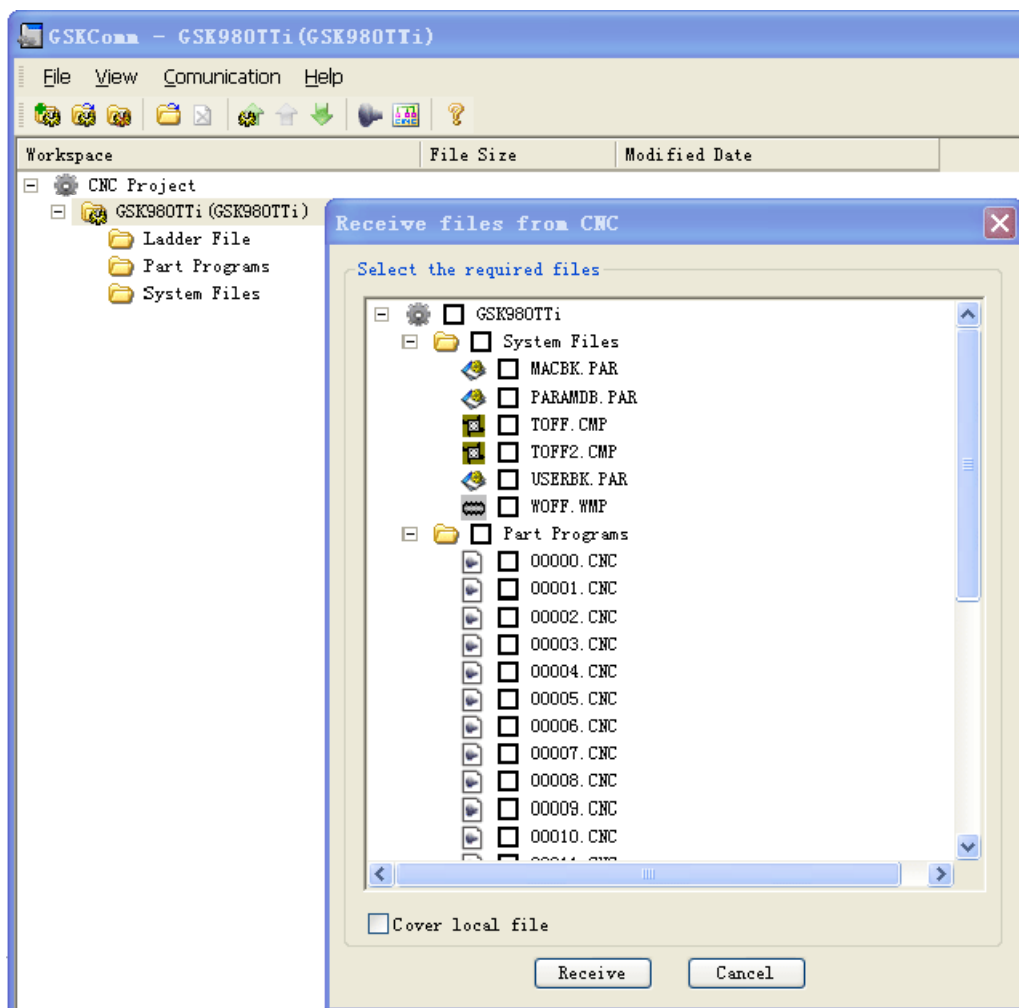

Fig.3
③After the user selects the required file, [ Start Receiving ] is pressed and the system pops up a path selection dialog box to save the received files as follows Fig.3;